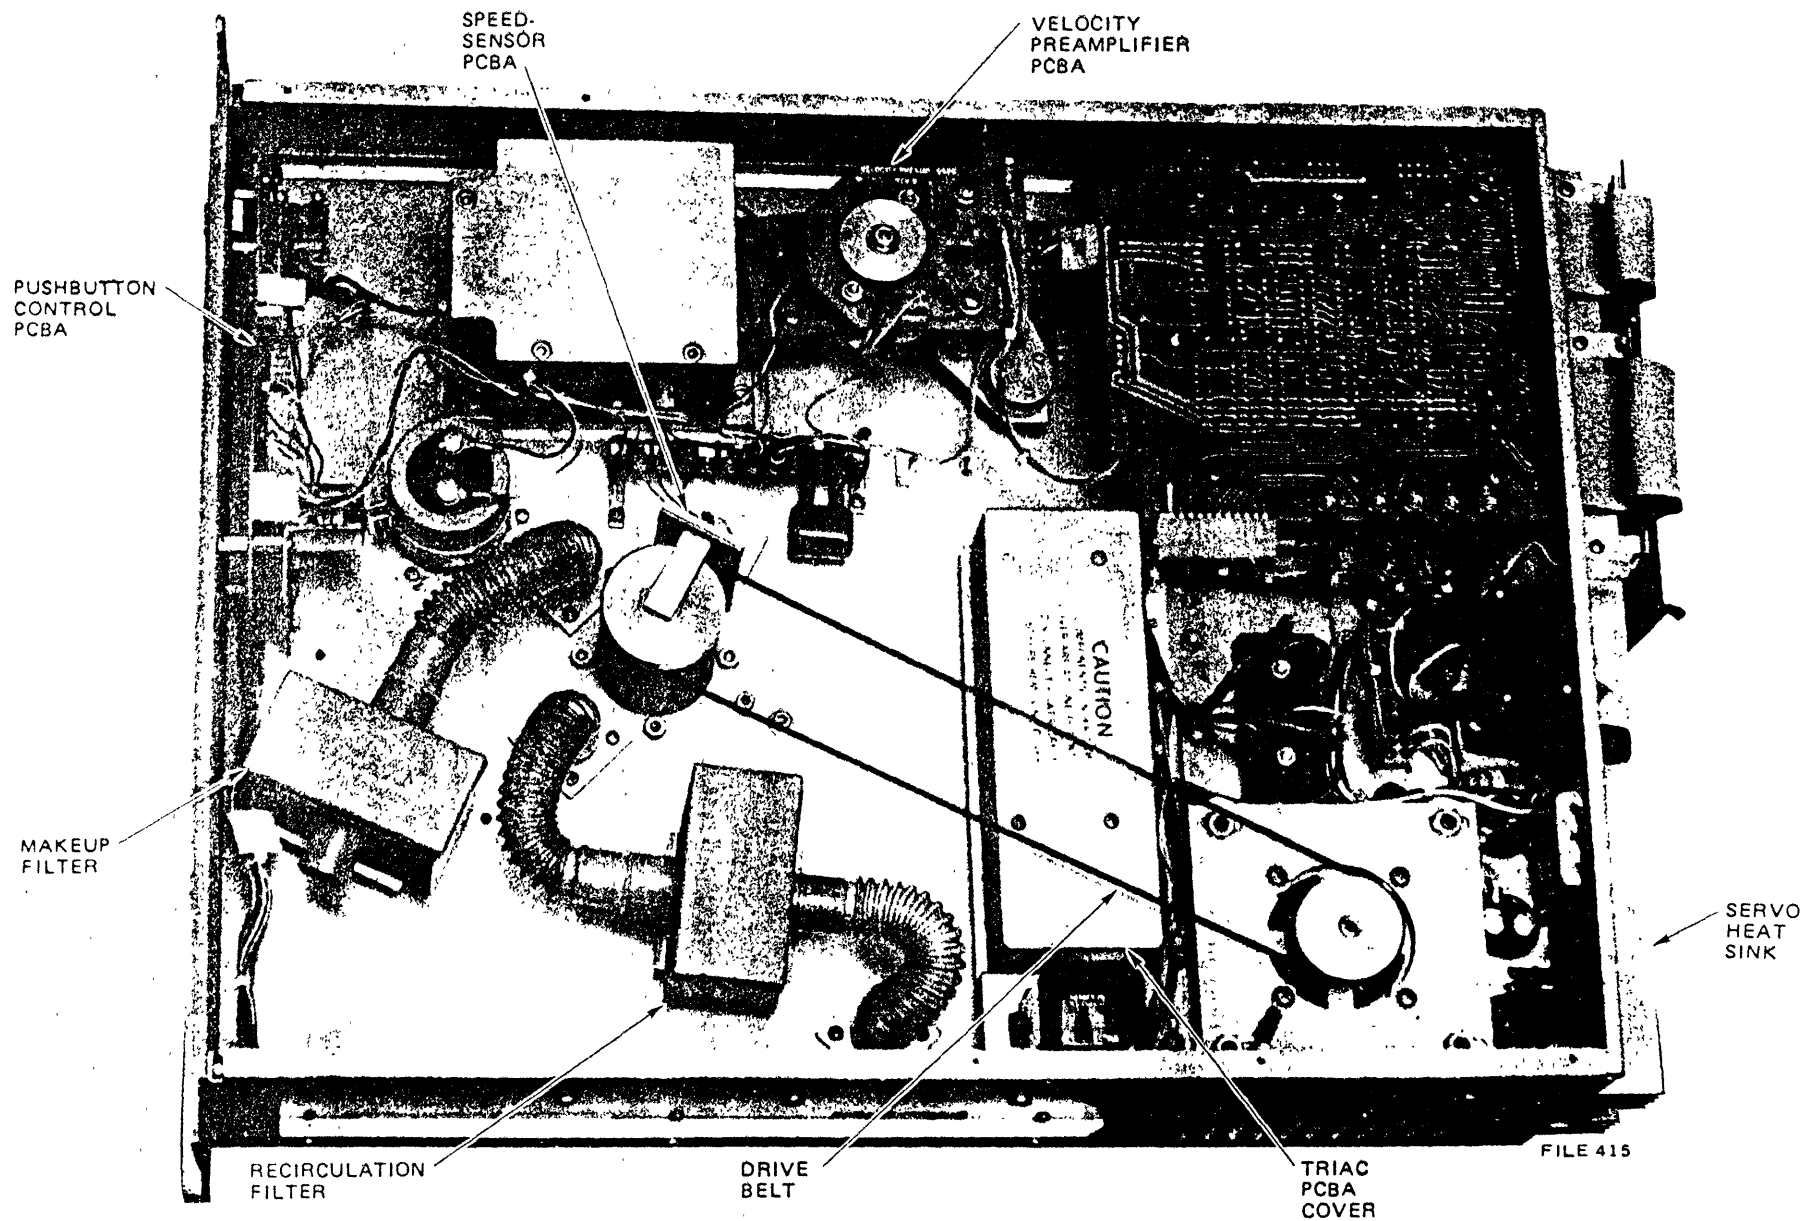

Figure 20-15. Large-Capacity Disk Drive (Bottom View)
- c. Remove the two large Phillips screws securing the velocity preamplifier PCBA (Figure 20-15).
- c. Remove the connector from the speed-sensor PCBA (Figure 20-15).
- d. Remove the cover from the triac PCBA (Figure 20-15).